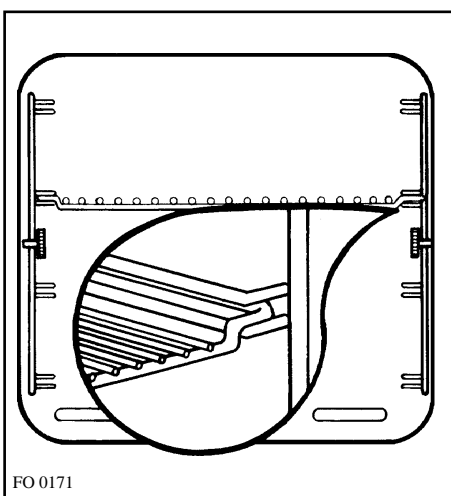

Fig. 6
**IMPORTANT: The anti-tip oven shelves must be positioned as shown in Fig. 6.**